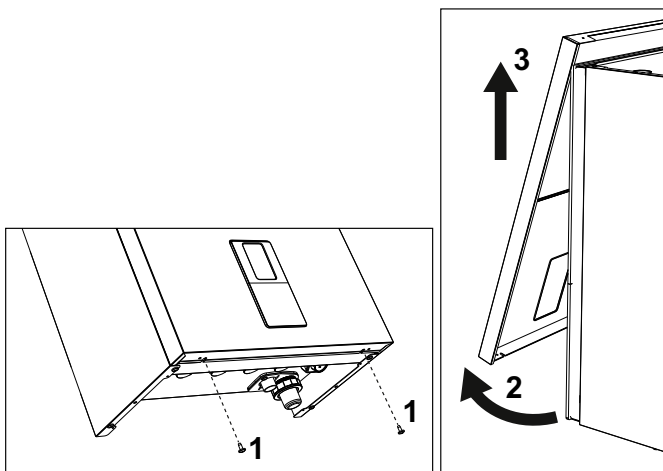

fig. 40- Front panel opening
1. Undo the screws "1" (see fig. 40).